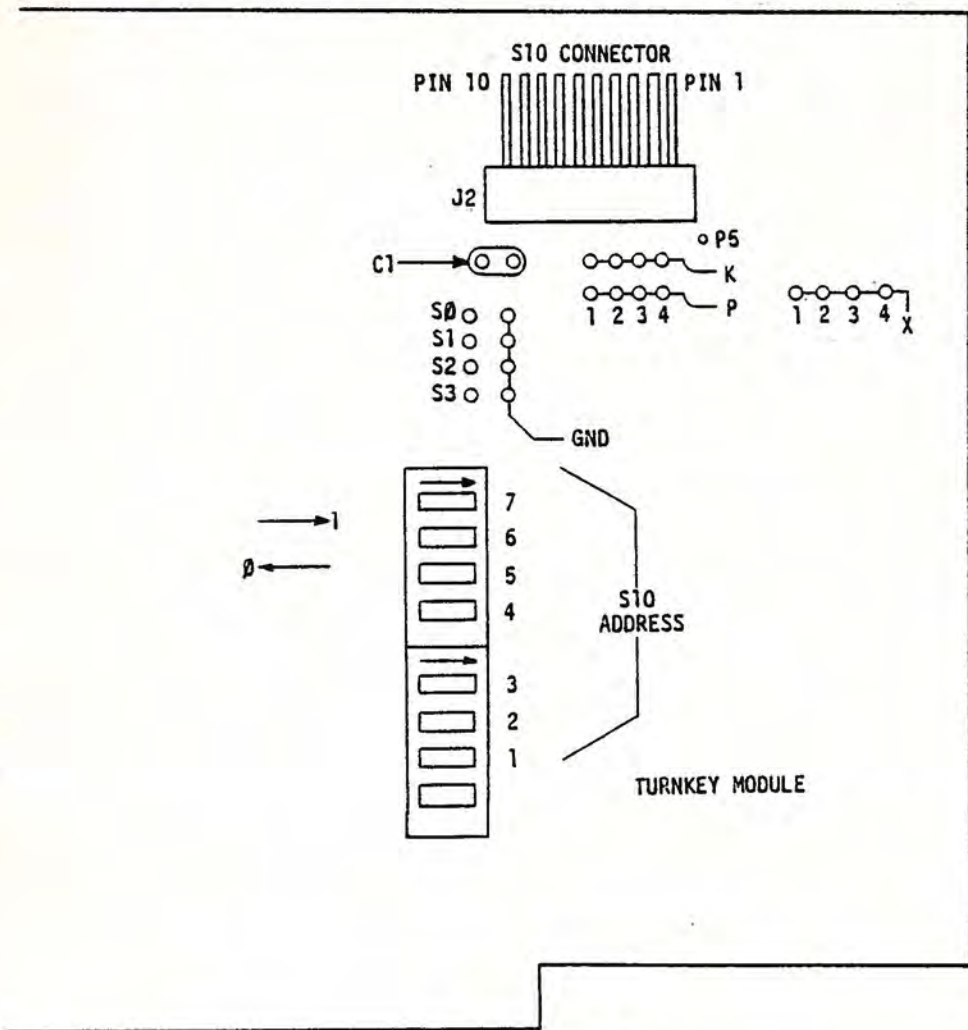

Figure 3-3
The bit rate is selected by jumpers and by Control Register bits 1 and 0. Table 3-B shows the resultant bit rate for every usable combination of jumpers and control bits. The jumpers S0, S1, S2 and S3 are shown in Figure 3-3. If CR0 and CR1 are both zero and the external rate is not selected, then the SIO may only be used for transmission. Otherwise, the SIO may be used for both receiving and transmitting at the selected rate. If a rate above 300 bits per second is selected, capacitor C1 should be removed.
6) Signal Types. The SIO can be configured to interface with peripheral equipment using 20 mA loop, RS232C and TTL signals. These signal options are selected by jumpers and internal cable connections. Table 3-C shows the I/O signal types. The locations of the jumpers are shown in Figure 3-3. The cable runs from the I/O connector on the Turnkey Module to the rear panel. The rear panel connector is the industry standard 25-pin data communications connector.